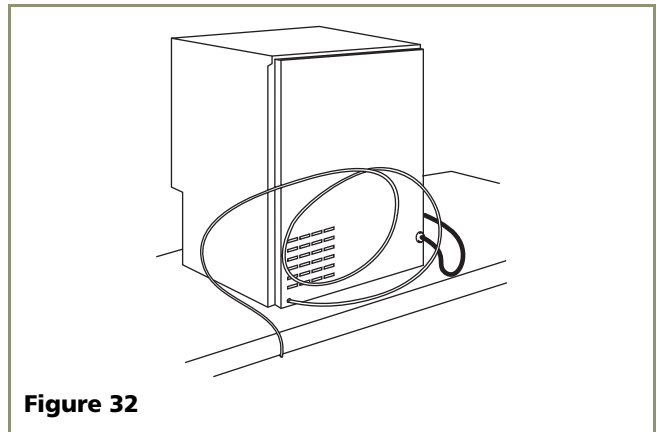

Figure 32
- Connect sufficient tubing to the unit so that tubing may be looped, allowing the unit to be removed for cleaning and servicing (see **Figure 32**). However, make certain that the tubing is not pinched or damaged during installation.
3. Carefully bend the water supply line into position and connect the line to the solenoid valve (see **Figure 32**). Avoid kinking the water supply line.
4. For recessed installations, allow extra water supply line length to provide slack for easy removal from the recessed area (see **Figure 32**). This will also safeguard against kinking the line.